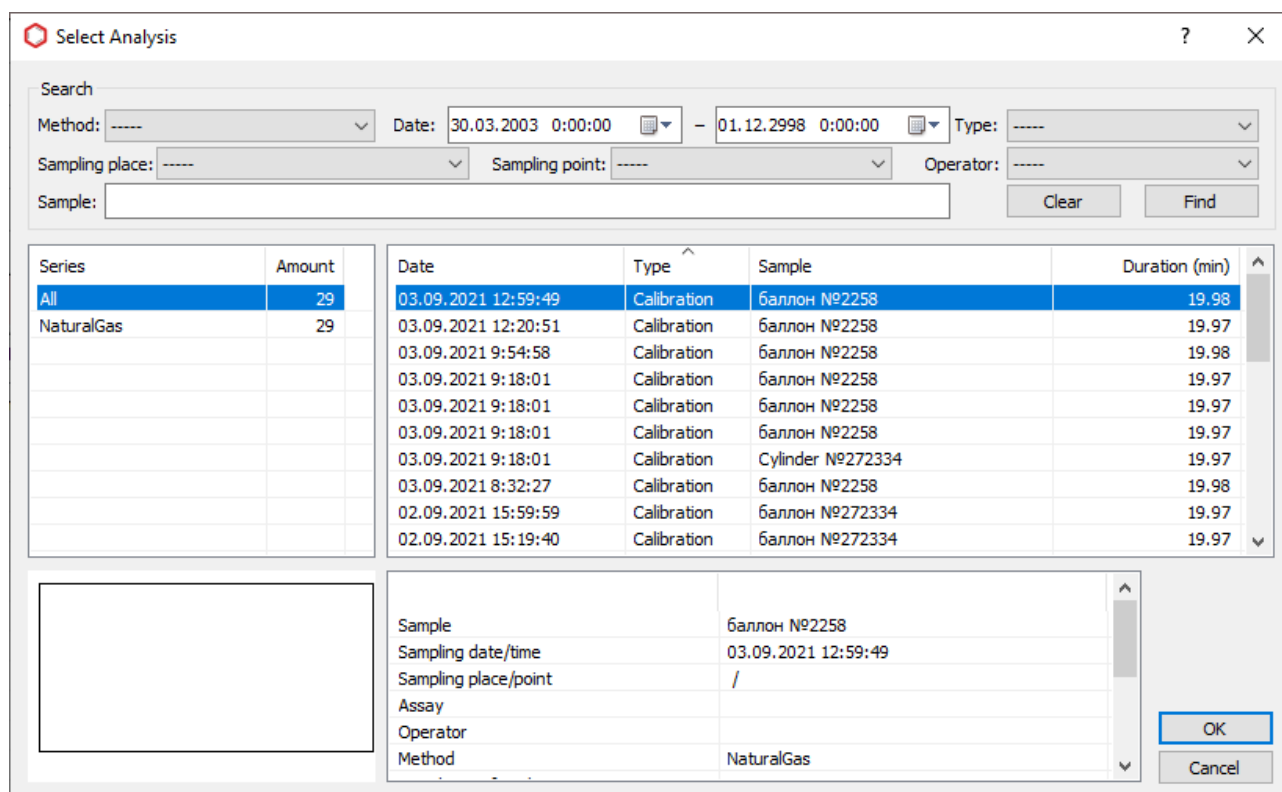

Fig. 40: *Select Analysis*
1. On the control panel, click  **Open**. This function is also available in the *Chromatogram* menu. The *Select Analysis* window opens (Fig. 40).